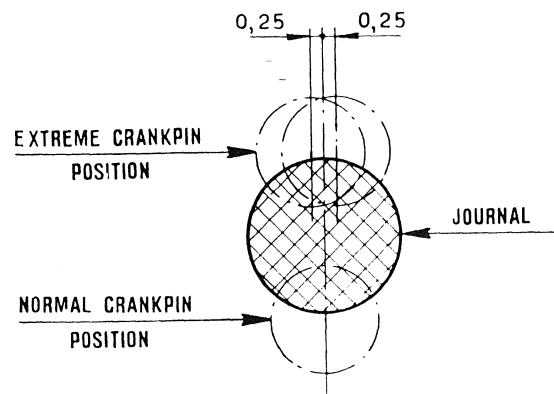

Fig. 72 - Crankpins versus journals alignment maximum permissible tolerances.
a) axes of both crankpins and journals must lie on the same plane; maximum permissible tolerance square to said plane, is $\pm .0098''$ ($\pm 0,25$ mm) (fig. 72);